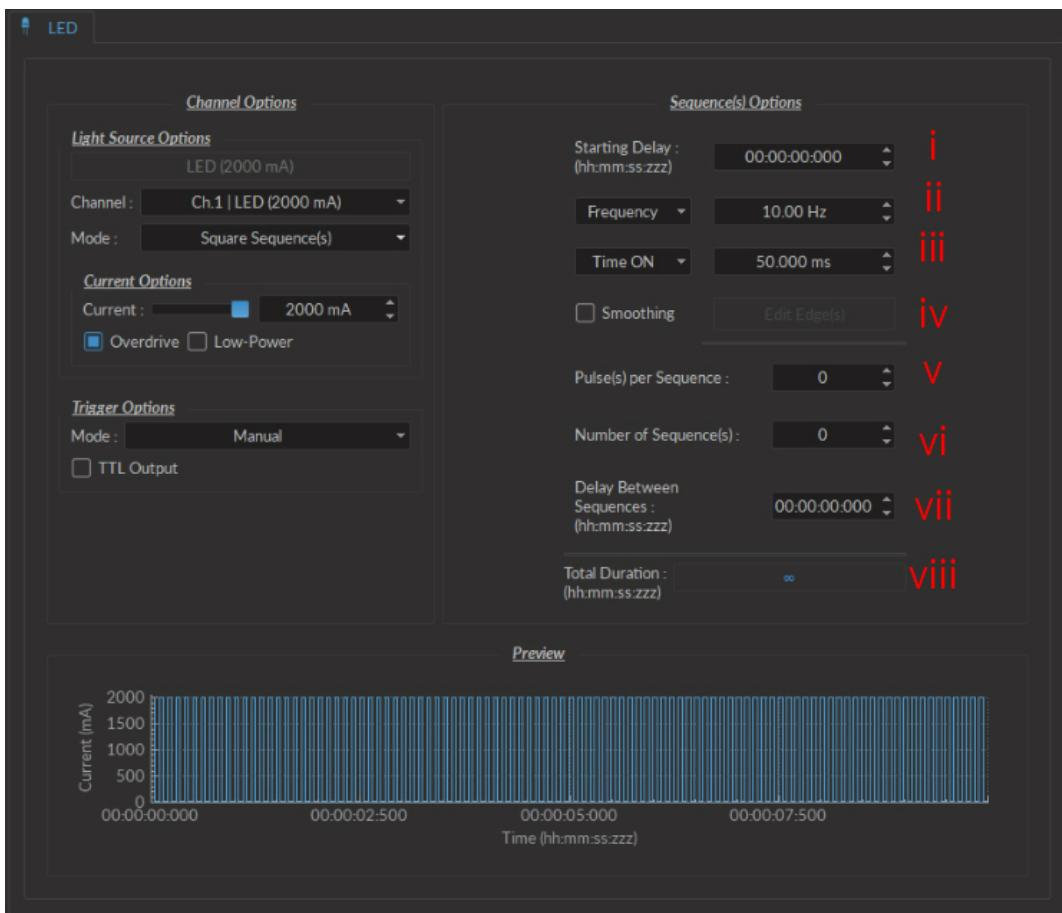

Figure 3.6: Light Source Channel Configuration Window, square sequence options
- The **Starting Delay** (Fig. 3.6) sets the delay (in hh:mm:ss:zzz format) before the first pulse.
- The **Frequency/Period** (Fig. 3.6) sets the frequency (in Hz) or period (in ms) for the pulse sequence. For example, a signal at 10 Hz (frequency) will output one pulse every 100 ms (period), whereas a pulse sequence at 0.5 Hz (frequency) will output one pulse every 2000 ms (period).
- The **Time ON/Duty Cycle** (Fig. 3.6) sets the time (in ms) or the duty cycle (in %) for each pulse. The **Time ON** must be lower than $(1/\text{frequency})+0.005$ ms, while the **Duty cycle** must be below 100 %. These squares will appear red should an impossible **Frequency/time ON** be selected. Should the **Smoothing** option be selected, this feature becomes inaccessible.
- v. The **Pulses per sequence** (Fig. 3.6) sets the number of pulses per sequence. If it is set to 0, the pulse will be repeated indefinitely.
- vi. The **Number of sequences** (Fig. 3.6) sets the number of times that the sequence will be repeated. If it is set to 0, the sequence will be repeated indefinitely.
- vii. The **Delay between sequences** (Fig. 3.6) sets the delay (in hh:mm:ss:zzz format) between each sequence if the **Number of Sequences** is greater than 1.
- viii. The **Total Duration** (Fig. 3.6) displays the total time of the experiment. The different values can be *Inf* for infinite, a valid time value or *Err* if the **Time ON** value is greater than 1/frequency.